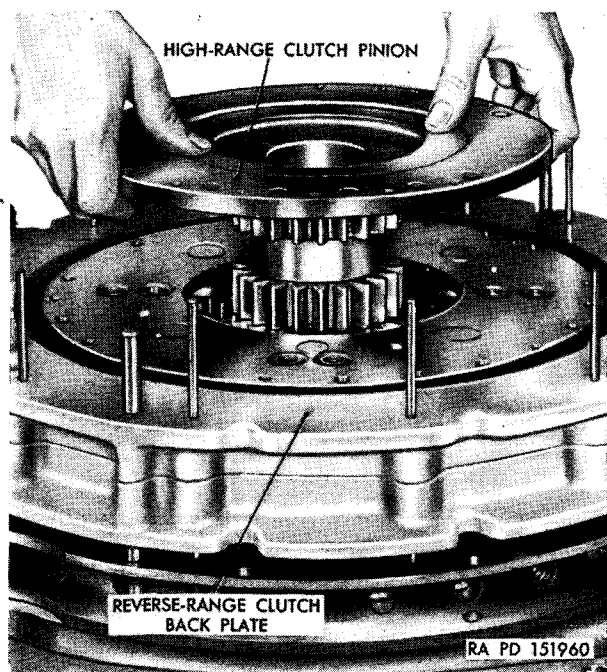

Figure 221. Installing high-range-clutch pinion.
- (1) Install the high-range clutch pinion rotating it to engage the teeth of both sets of planet-pinion gears (fig. 221).